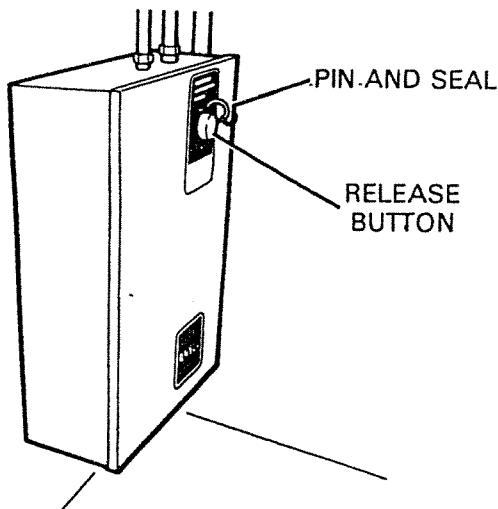

Figure 7-3. Galley Fire Suppression Release (Galley, Frame 10)
3. If fire at the range does not activate the system, a manual release is provided at the release enclosure. To activate manually, remove ring pin and seal and push strike button (Figures 7-3 and 7-4).